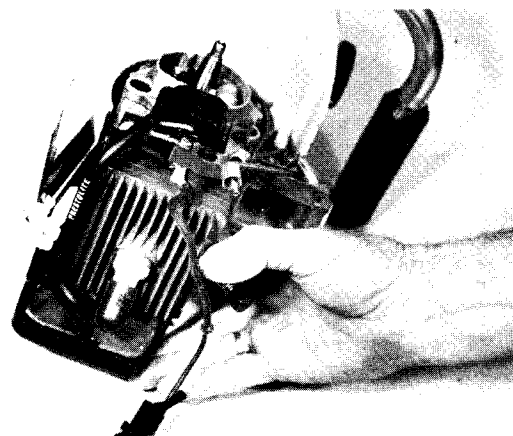

Fig. 32 — Separating Engine from Fuel Tank
10. Remove four screws on clutch side of saw and separate engine from fuel tank, Fig. 32.
14. Position engine into fuel tank assembly and secure with retaining screws, Fig. 32.